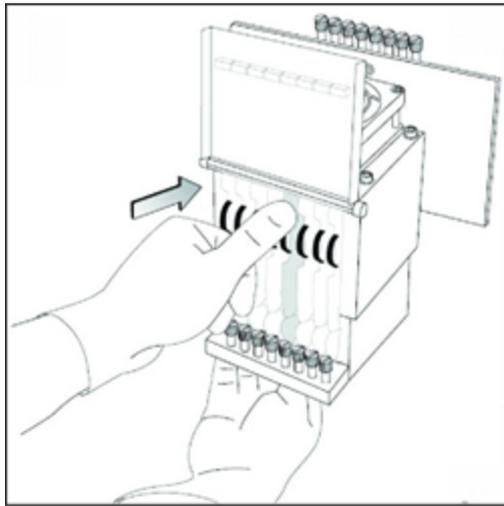

Figure 6-76 Inserting the print-head driver card into its socket
- b. Re-insert the print-head driver card into its socket (see Figure 6-76 on page 6-55).